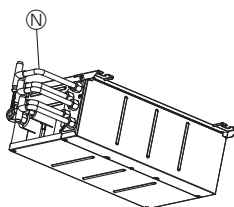

Fig. 8-7
- To divide the wirings of each terminal block into 2 branches outside the branch box, use 2-branch wiring conduits ⑮. (Fig. 8-7)